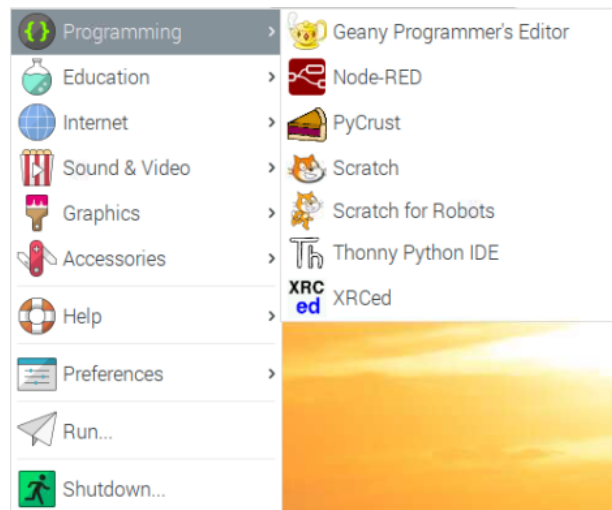

Figure 9.1: Opening Thonny Python IDE
13. Open Thonny Python IDE from the main Raspery Pi panel as shown in Figure 9.1.